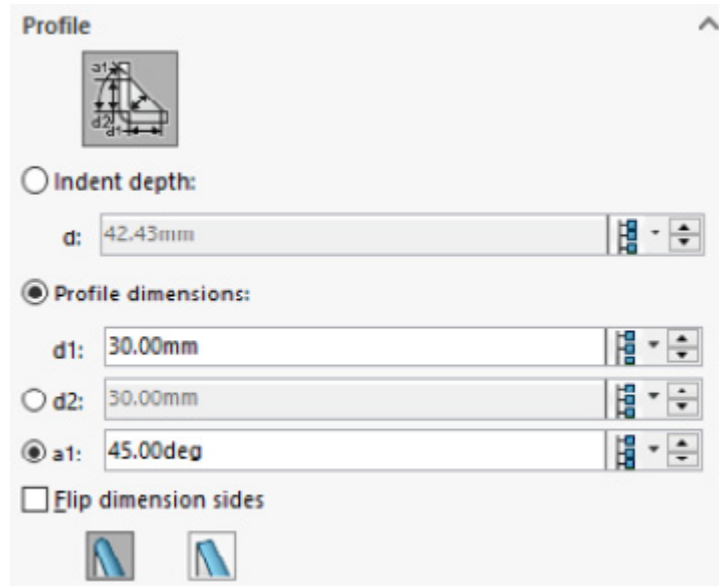

Figure 6.5: The Profile section of the Sheet Metal Gusset's properties
9. The size of the **Gusset** profile can now be set using the **Profile** section of the Property Manager (*Figure 6.5*). There are two main ways to set the size: